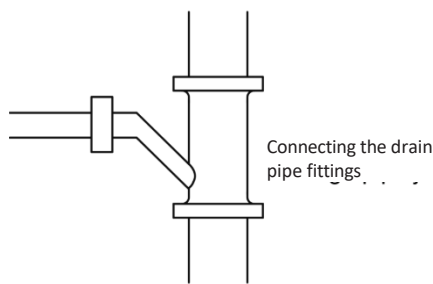

Fig. 4.13
- 8 The horizontal pipe can be connected to the vertical pipe at the same level; choose the connection method as shown in Figs. 4.13 to 4.15.
- ①: Connecting the drain pipe joints (Fig. 4.13)